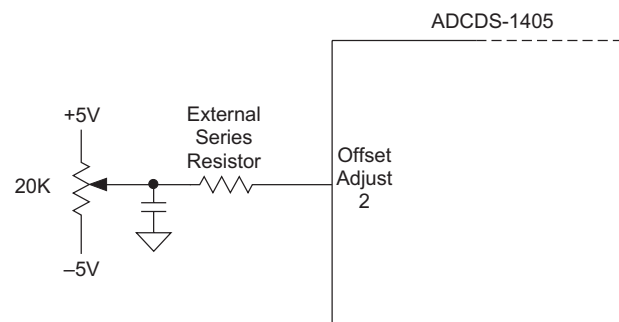
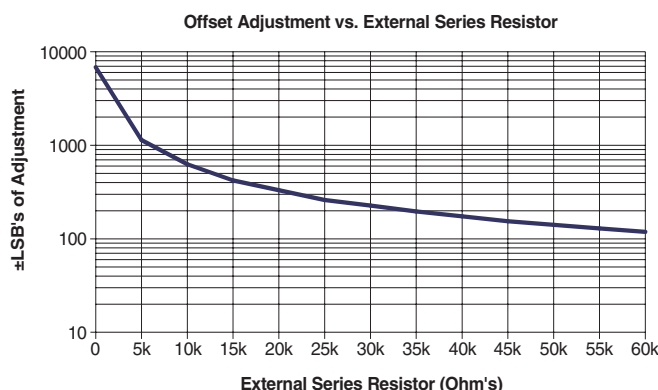

Figure 3. Offset Adjustment Circuit
Figure 6. Offset Adjustment vs. External Series Resistor
- If using the suggested offset and gain adjust circuits (Figure 3 & 5), place them as close to the ADCDS-1405's package as possible.
Manual offset adjustment for the ADCDS-1405 can be accomplished using the adjustment circuit shown in Figure 3. A software controlled D/A converter can be substituted for the 20K $\Omega$  potentiometer. The offset adjustment feature allows the user to adjust the Offset/Dark Current level of the ADCDS-1405 until the output bits are 00 0000 0000 0000 and the LSB flickers between 0 and 1. Offset adjust should be performed before gain adjust to avoid interaction. The ADCDS-1405's offset adjustment is dependent on the value of the external series resistor used in the offset adjust circuit (Figure 3). The Offset Adjustment graph (Figure 6) illustrates the typical relationship between the external series resistor value and its offset adjustment capability utilizing  $\pm 5V$  supplies.